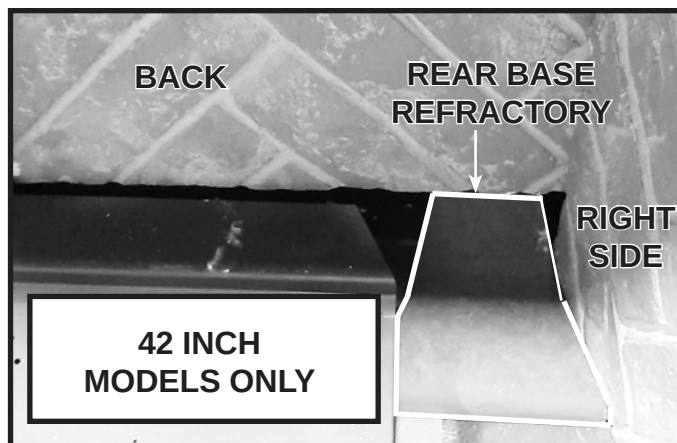

Figure 11.7 42 Inch Models Only:
7. **42 Inch Models Only:** Place the rear base refractory pieces on the left and right sides in the rear of the firebox. Push back and toward the side of the firebox as shown in Figure 11.7. The base refractory piece should contact the side and back refractory panel.